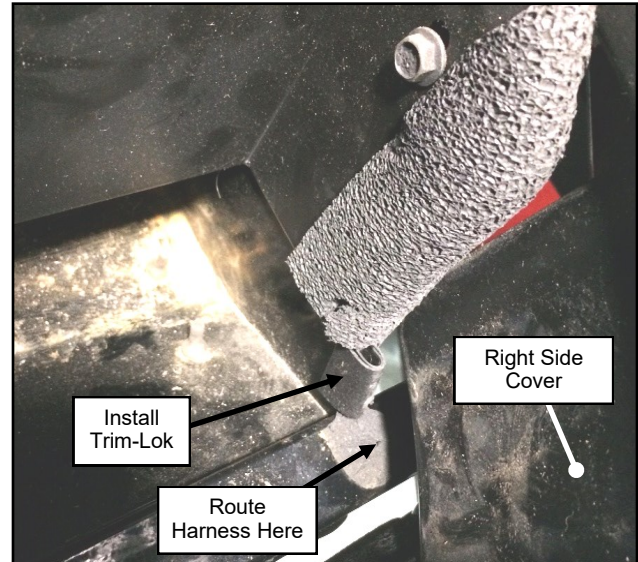

Fig. 18.6 Route Harness, Right Side
**18.6** Pull right side cover out enough to replace the foam corner piece with a 1" piece of trim-lok as shown in figure 18.6. continue to route the harness back towards the battery compartment making sure to route the harness between the trim-lok and right side cover.